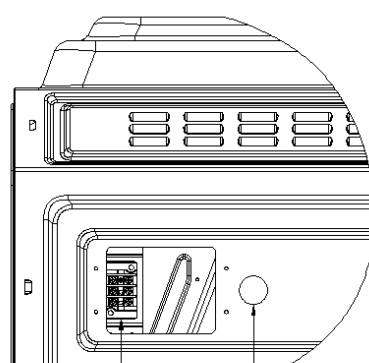
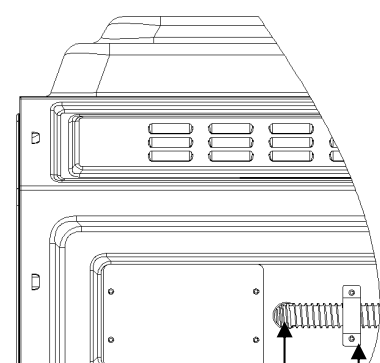

Fig.1.2
Fig.1.3
Step 2: connect the ground wire, red wire L1 and black wire L2 of the bellows to the ground wire, red wire L1 and black wire L2 of the wiring seat respectively. The bellows is stretched out from the outlet of the bellows and pressed on the upper cover by the wire clamp. As shown Fig.1.2/ Fig.1.3